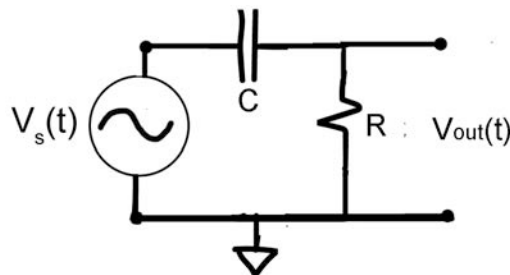

Figure 5.3.
Q.10 An RC high pass with $f_{3dB} = 1.0 \text{ kHz}$ (Figure 5.3). Include a SCREENSHOT of the rough performance and the full Bode plot of the magnitude only to demonstrate that your measurements confirm that you hit the desired "break frequency."